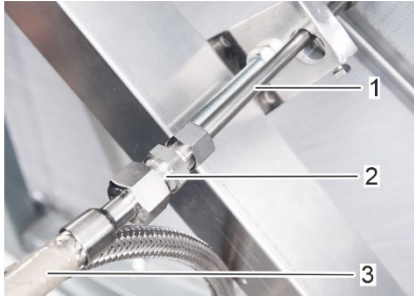

Fig. 57: Connect the water supply
1. Connect the high-pressure water nozzle (Fig. 57/1) using a suitable connection technique with an electromagnetic hydraulic valve and with the on-site high-pressure water supply (Fig. 57/3).
*Klingenburg recommends using a Parker Ermeto hydraulic screw connection (Fig. 57/2). The electromagnetic hydraulic valve is not included in the scope of delivery.*